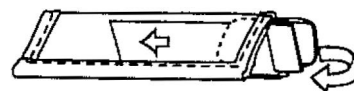

figure 1
- 1.1 If you see 2 or more black plastic strips in the bag that held these instructions, insert each into a pocket of the air deflector and tuck the vinyl flap over the end as shown in figure 1.